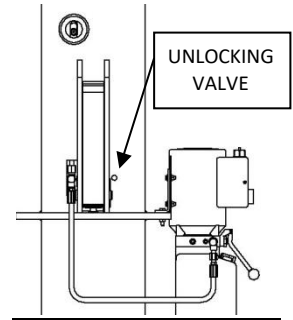

FIGURE 13 : UNLOCKING VALVE
14. PRESS THE UNLOCKING VALVE AND THEN PUSH DOWN PRESSURE RELEASE HANDLE, BOTH PRESSING THEM TO LOWER THE SWING ARMS TO THE GROUND. **SEE FIGURE 13.**